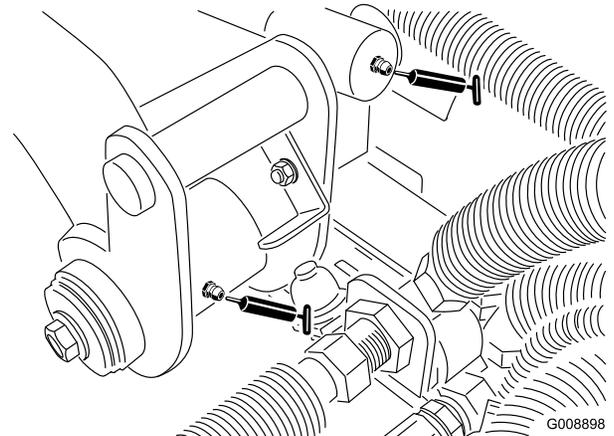

Figure 33
- Rear lift arm pivot and lift cylinder (2) (Figure 33)